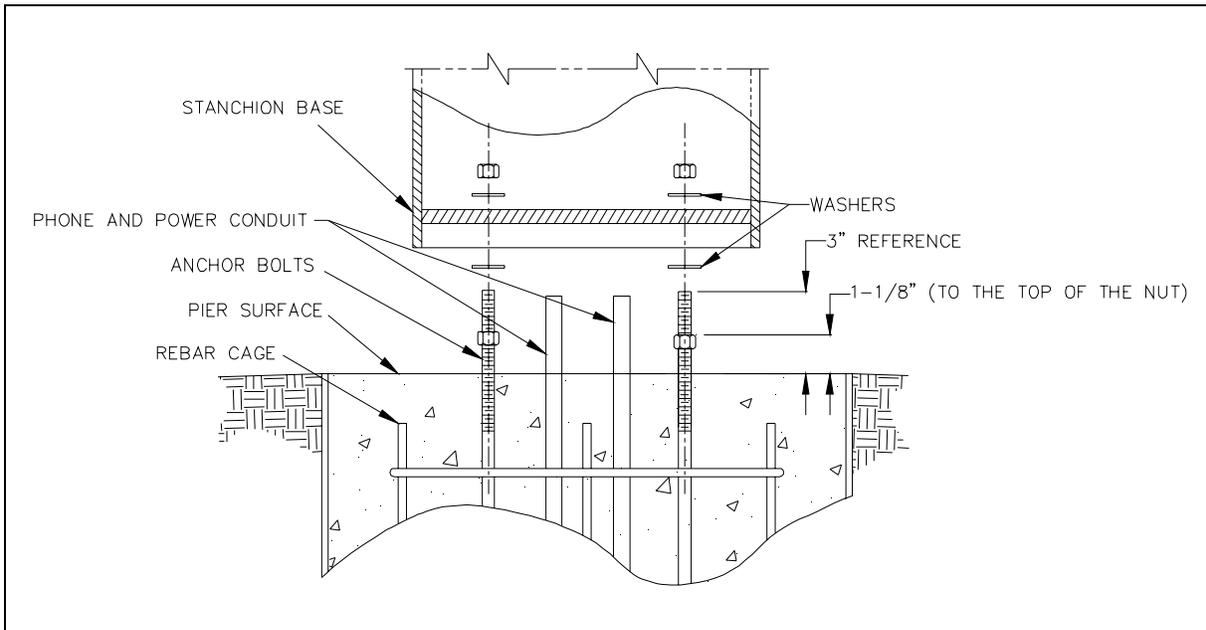
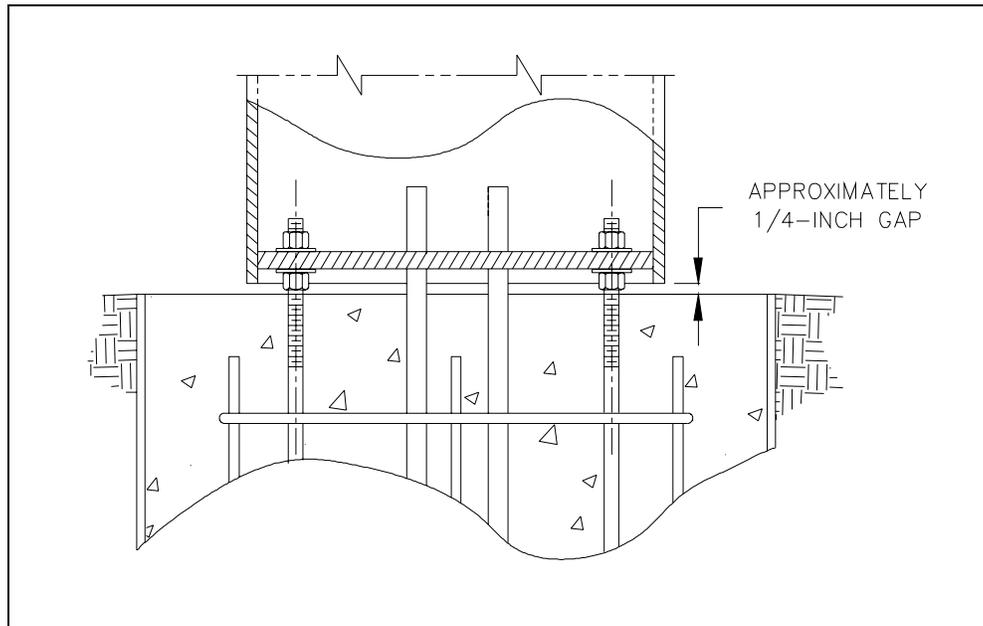

Figure 5. Exploded View
Figure 6. Assembled View
See Figure 5.
2. Adjust the remaining three hex nuts to be level with the first. Place one washer over each heavy hex nut. See Figure 5 and Figure 6.
**NOTE:** A 1/4-inch air gap must exist between the base of the stanchion and the top of the concrete pier. See Figure 6. This air gap must not be obstructed with soil, mulch, stone, etc.